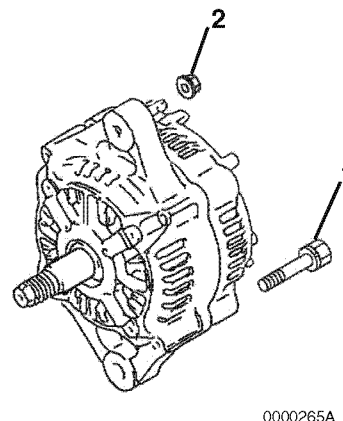

Figure 11-8
7. Remove the two bolts (**Figure 11-8, (1)**) and two nuts (**Figure 11-8, (2)**) securing the rear frame housing to the front frame housing.